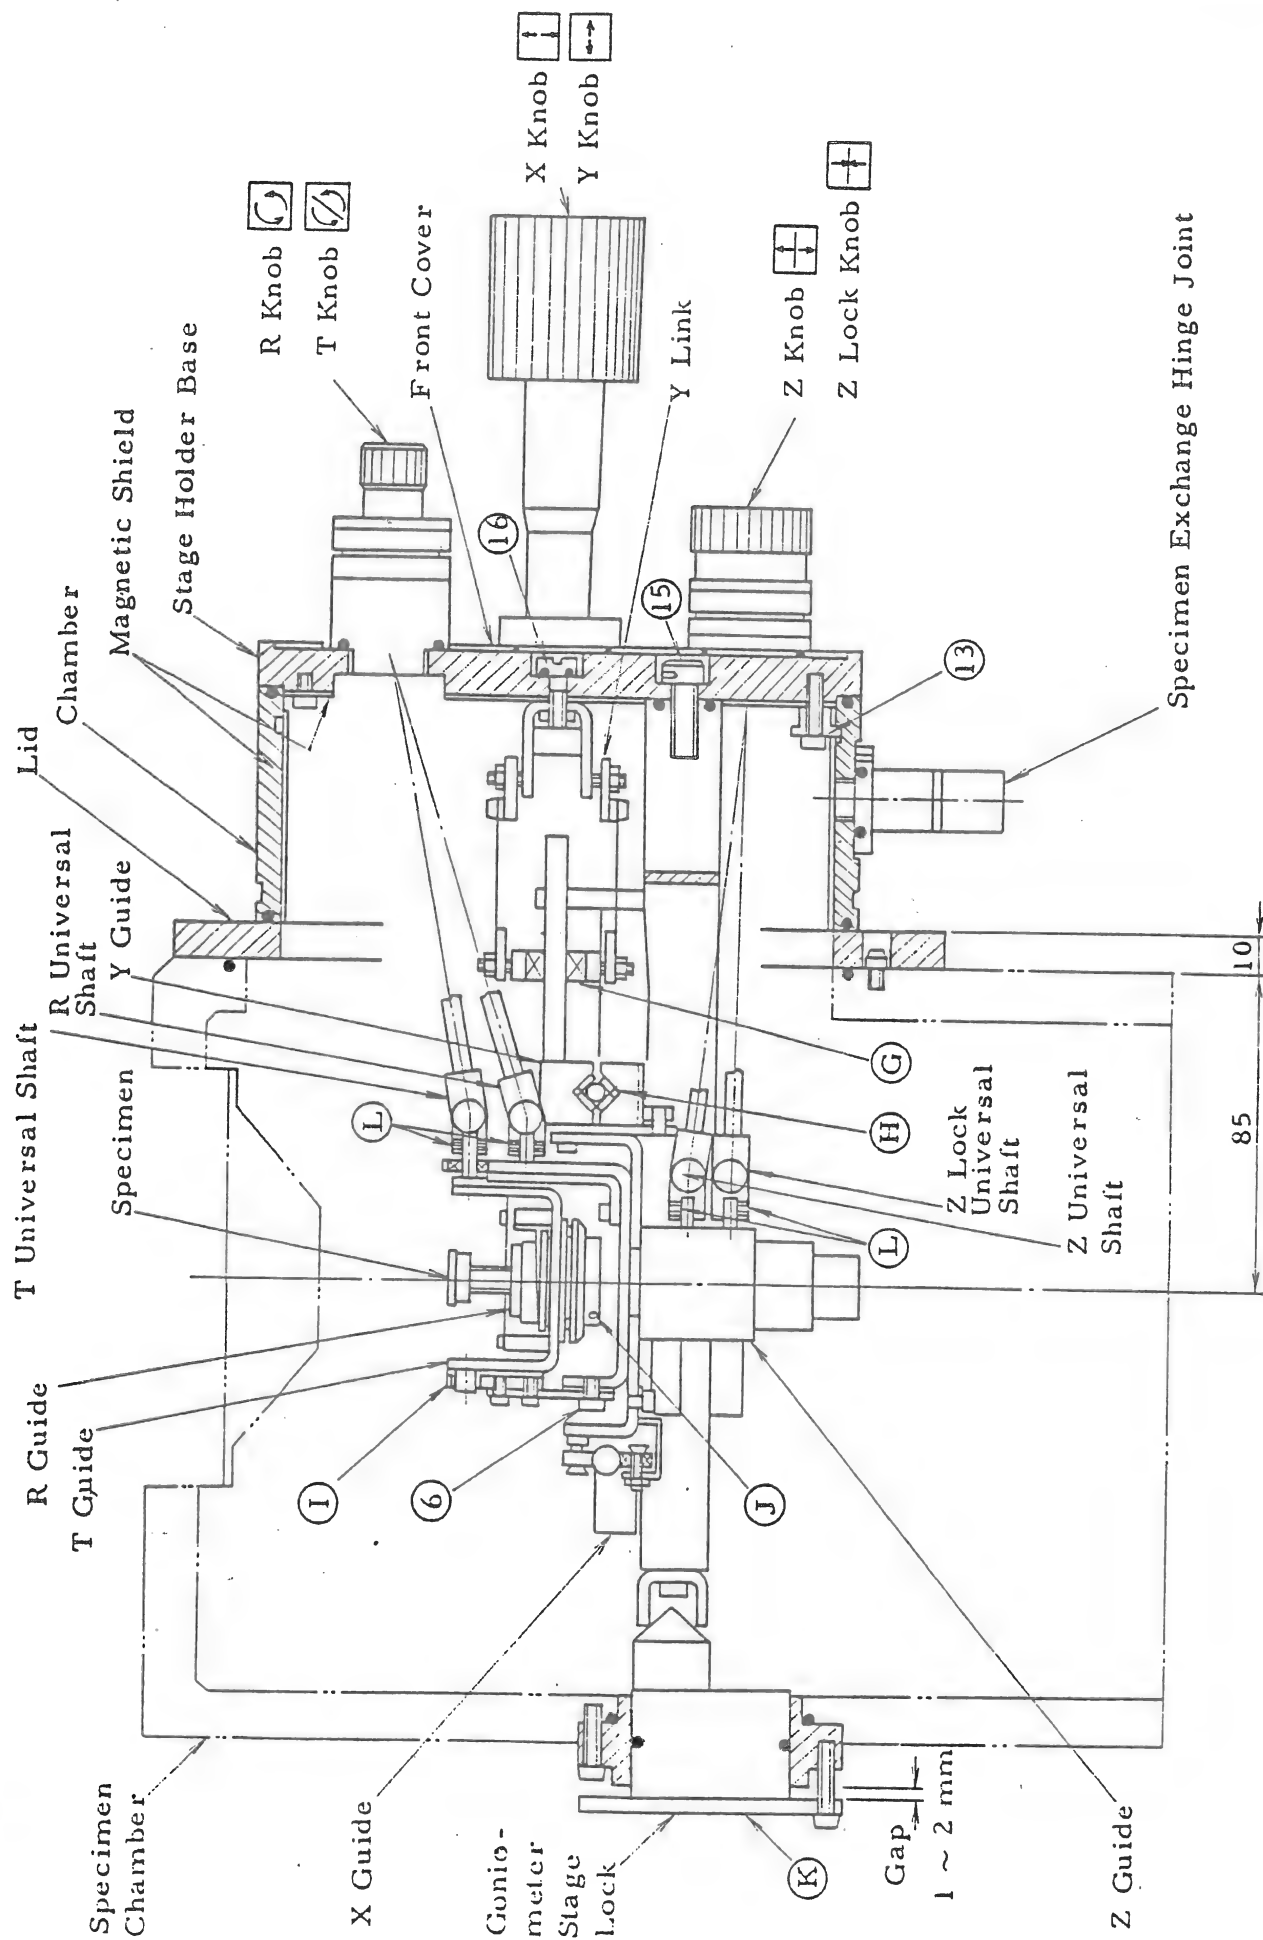

Fig. 4-11 Sectional View of Specimen Goniometer Stage
- 7) Check if slide bearing (G) (Fig. 4-11) is properly mounted without looseness.
- 2) Check if four steel balls (H) (Figs. 4-11 and 4-12) are mounted to each guide assembly.
- 3) Check steel ball faces (H) (Figs. 4-11 and 4-12) of each guide assembly for dust deposit.
- 2) Check if T-mount shaft brake (I) (Fig. 4-11) is securely mounted without looseness. (Check if the T-knob torque exceeds 500 g/cm).
- 3) Check if R-ball holder (J) (Fig. 4-11) is securely mounted.
- 4) Check if a 1 ~ 2 mm gap exists in the specimen goniometer stage base lock K (Fig. 4-11).
Check the screw (L) (Fig. 4-11) at the tip of knob drive shaft for looseness. Disassemble and check it.